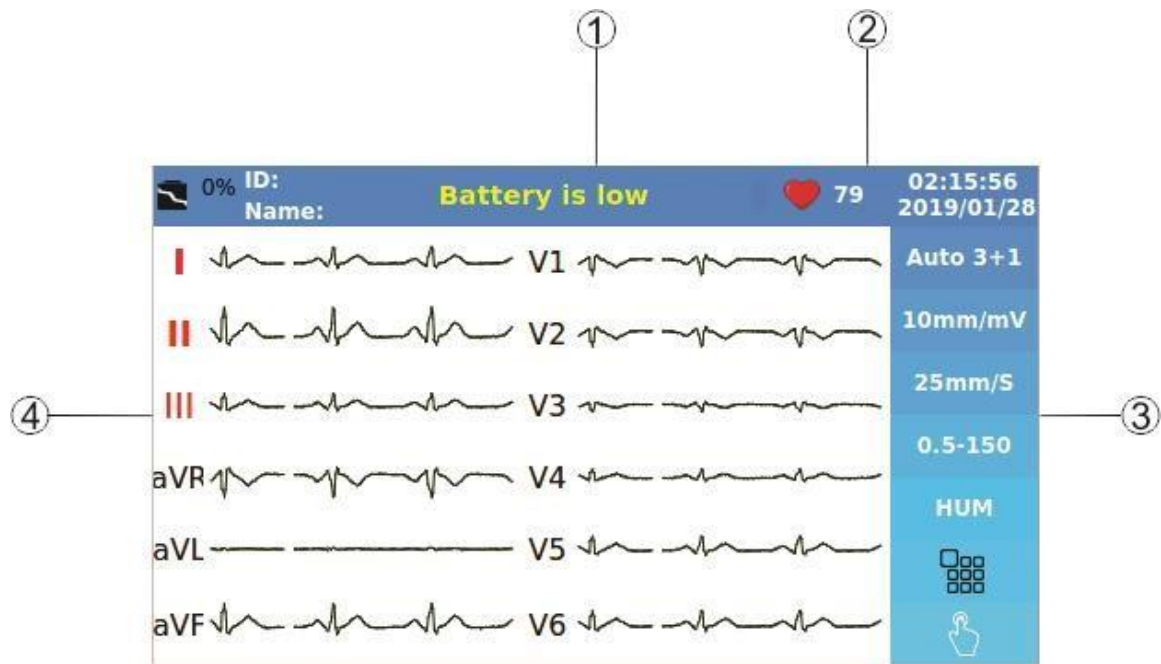

Figure 2-2 Display Screen
EM650 is equipped with a TFT color screen. All 12-lead ECG waveform, HR value, Patient name/ID, Date and Time, system operating status, error and informative messages are displayed on the screen. The screen is divided into four areas: informative and system error messages area (Figure 2-2- ①), Header area (Figure 2-2- ②), touch keys area (Figure 2-2- ③), Waveform/ Menu area (Figure 2-2- ④).
All electrodes connection is checked regularly by the system and in case of improper connection, the related message will appear in this area in red (Figure 2-2-④).
2- Informative and system error messages area (Figure 2-2-①).